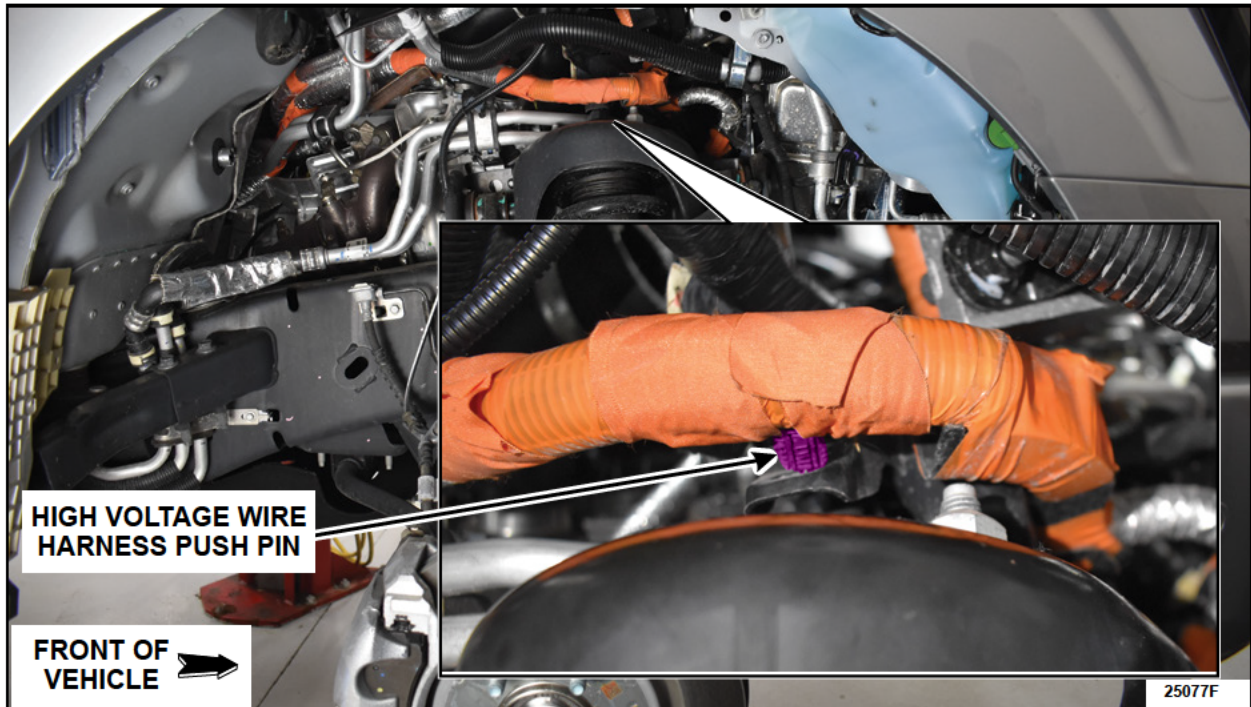

FIGURE 6
15. Detach the high voltage wire push pin from the bracket. See Figure 6.